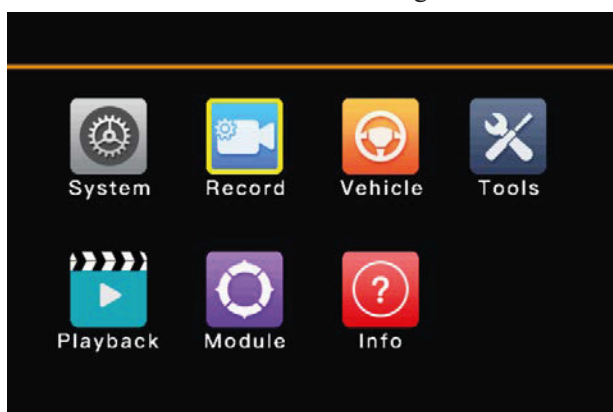

Figure 3-11
3.4 Record Setup (Figure 3-11)